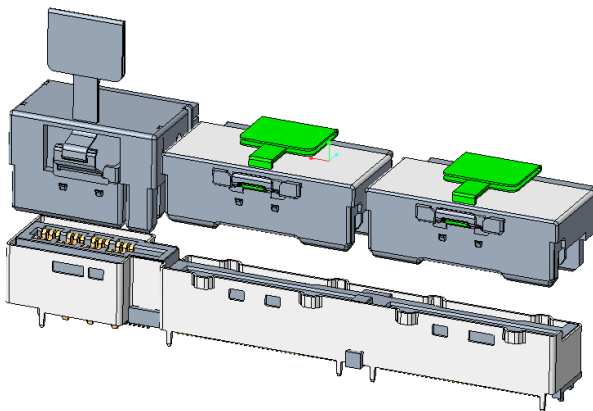
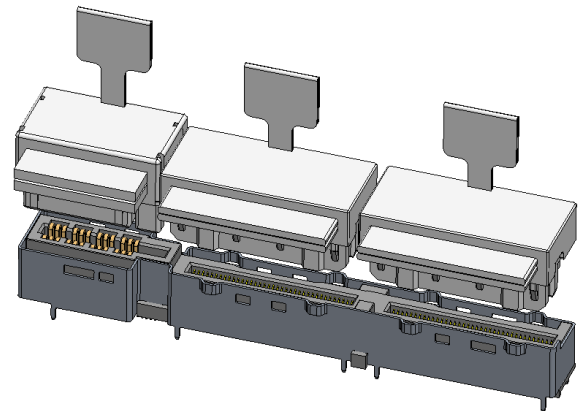

Figure 4-21 Separate RA 74 Pin Cables and a RA 34A High Power Cable Application
Figure 4-22 Separate RRA 74 Pin Cables and a RRA 34A High Power Cable Application
3. Separate individual cables can plug into the Vertical Combo DE x16+34A High Power connector where there are two 74-pin cables and a 34A High Power cable used as shown in Figure 4-21 or Figure 4-22. In this third case, the Straight Plug with no side flanges for 74 Contacts listed in SFF-TA-1016, the equivalent Right Angle Plug (with no side flanges), or a Reverse Right Angle Plug (with no side flanges) can mate with these receptacle connectors. The standard SFF-TA-1016 Straight Plug for 74 Contacts or the Right Angle Plug for 74 Contacts that include the side flanges will not fit. For this same reason, the SFF-TA-1016 Straight Plug for 148 Contacts or the Right Angle Plug for 148 Contacts will not fit.